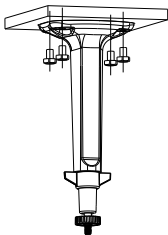

Figure 2-10 Install the Bracket
2. Attach the ceiling mount to the wall and tighten the screws to fix it. As shown in Figure 2-10.